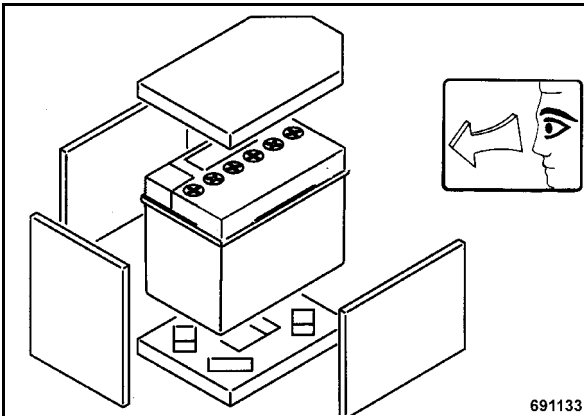

Fig. 53
- Clean the condition of the vibration insulation mats, replace if necessary (Fig. 53).